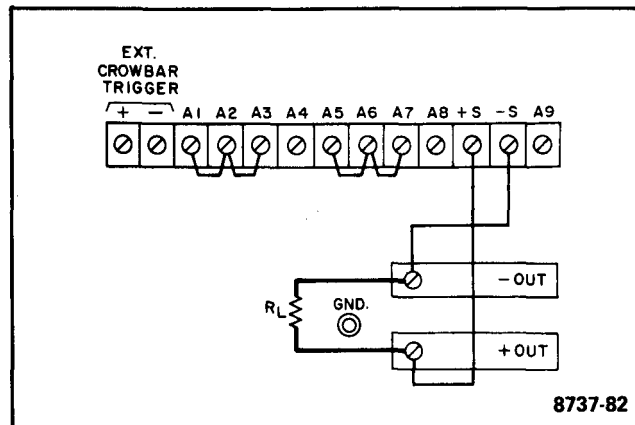

Figure 3-2. Normal Strapping Pattern
a. Turn CURRENT controls (7) and OVERVOLTAGE ADJUST potentiometer (5) fully clockwise and check that rear panel straps are connected as shown in Figure 3-2, but do not connect load R_L .
- c. Set LINE switch or circuit breaker (1) ON and observe that pilot lamp (2) lights.
- d. Adjust COARSE and FINE VOLTAGE controls (3) for desired indication on voltmeter (4).
- e. Ensure that overvoltage crowbar circuit is operational by slowly turning OVERVOLTAGE ADJUST control (5) counterclockwise with a screwdriver until OVERVOLTAGE lamp (6) lights and voltmeter indication drops to zero volts.
g. To check the constant current circuit, first turn off the supply, connect a short across the output bus bars (see Figure 3-2), and turn it back on.
3-7 This power supply was shipped with the proper rear panel strapping connections made for constant-voltage/constant-current operation with local sensing and local programming. This strapping pattern is illustrated in Figure 3-2. In the constant-voltage mode, the power supply acts to maintain its output voltage constant in spite of changes in load, line, temperature, etc. Thus, for a change in load resistance, the output voltage of this mode remains constant while the output current changes by whatever amount necessary to accomplish this. In the constant-current mode, the power supply acts to maintain its output current constant in spite of changes in load, line, temperature, etc. Thus, for a change in load resistance, the output current remains constant while the output voltage changes by whatever amount necessary to accomplish this. By means of the front panel voltage and current controls, the operator selects either a constant-voltage or a constant-current output. Whether the supply functions in the constant-voltage or the constant-current mode depends on the settings of the voltage and current controls and on the resistance of the output load. For values of load resistance greater than a critical crossover value equal to the voltage setting divided by the current setting, the supply operates in the constant-voltage mode. With a load resistance smaller than this critical value, it operates in the constant-current mode. The transition occurs automatically; no switches need to be operated or connections changed.
3-28 Because of the unavoidable voltage drop developed in the load leads, the normal strapping pattern shown in Figure 3-2 will not provide the best possible voltage regulation at the load. If, for example, one were to use 4-gauge wire to connect a load that
The +S jumper is the one that links the +S terminal to the +OUT terminal when the supply's terminals are strapped for normal operation as shown in Figure 3-2. The -S jumper is the one that links the -S terminal to the -OUT terminal.